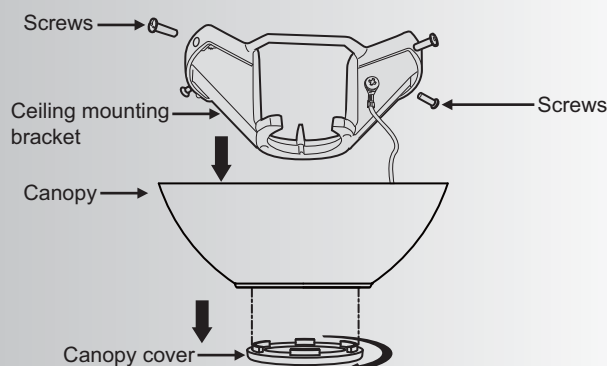

Fig. 8
Step 1. Remove the decorative canopy bottom cover from the canopy. (Fig. 8)
Step 2. Loosen the four screws on the top of the canopy. Remove the two non-slotted screws and loosen the slotted screws. This will enable you to remove the ceiling mounting bracket. (Fig. 8)
Step 3. Remove the ceiling mounting bracket from the canopy by loosening the two screws on the bottom of the ceiling mounting bracket. Turn the canopy counterclockwise and remove. (Fig. 8)